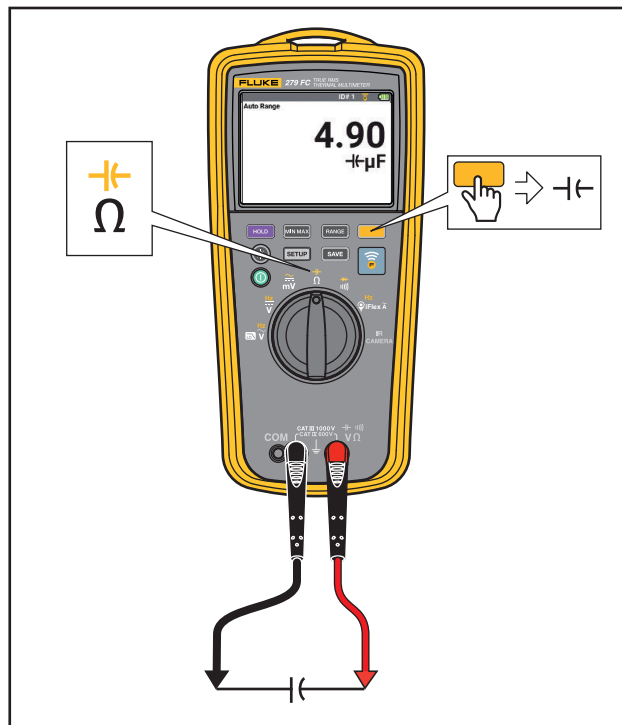

Figure 8. Capacitance Measurements
- Capacitance Measurements. See Figure 8.
The Multimeter makes a capacitance measurement by charging a capacitor with a known current, measures the resulting voltage, then calculates the capacitance. See Figure 8.